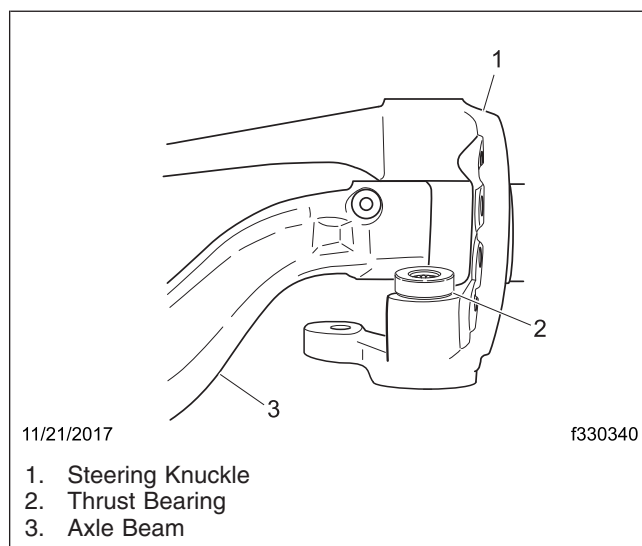

Fig. 17, Thrust Bearing Installation
21. Slide the thrust bearing between the lower face of axle center and lower steering knuckle yoke. See Fig. 17.